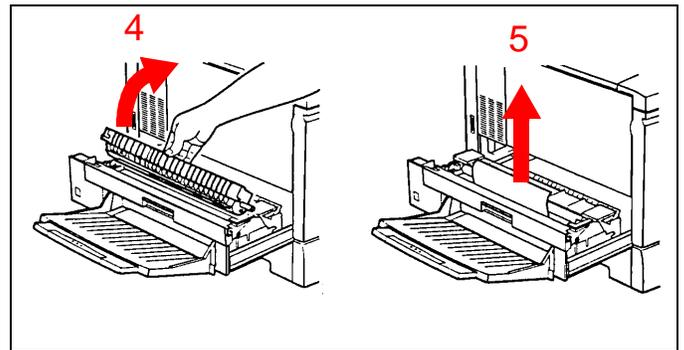

Figure 16
4. See Figure 16. Remove the oil roll cartridge and set it aside.